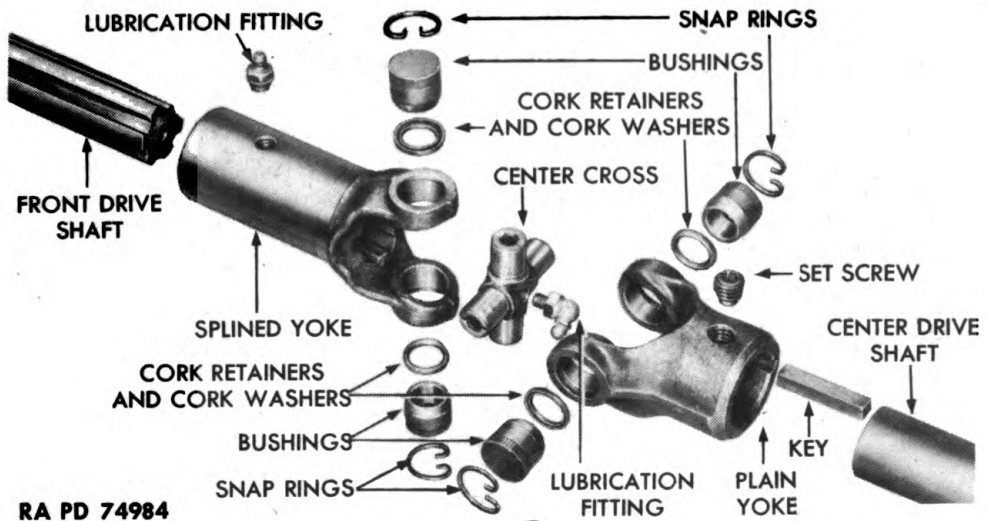

Figure 30 – Universal Joint – Disassembled
(3) **DISASSEMBLE UNIVERSAL JOINTS** (fig. 30). Remove four snap rings, and press on center cross so that four bushings are removed from center cross. Remove center cross from both yokes, and remove four cork washers and four cork retainers from cross. Remove set screw and lubrication fitting from yoke.
(1) **ASSEMBLE UNIVERSAL JOINTS** (fig. 30). Install lubrication fitting in yoke; then install four cork retainers and four cork washers on center cross. Install center cross in both yokes, install four bushings, and secure with snap rings.